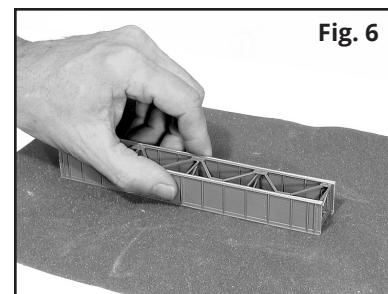

Fig. 6
6. After the cement has dried sufficiently, place the span assemblies on a sanding block and sand off the draft angle and parting line from the top and bottom edges of the girders. See fig. 6. (Sand only the top edges of the N 40' bridge.)
7. Center and cement a **long rivet plate part (4)** to the bottom edge of each girder. (The N 80' uses two rivet plates per girder, the N 40' bridge does not use long rivet plates.) Cement the **bridge shoes part (5)** on the bottom edge and at the ends of each girder.
8. Open Deck Bridge Only - Cement the **guard timbers part (6)** to the top of the **Bridge Flex-Trak part (7)** ties.